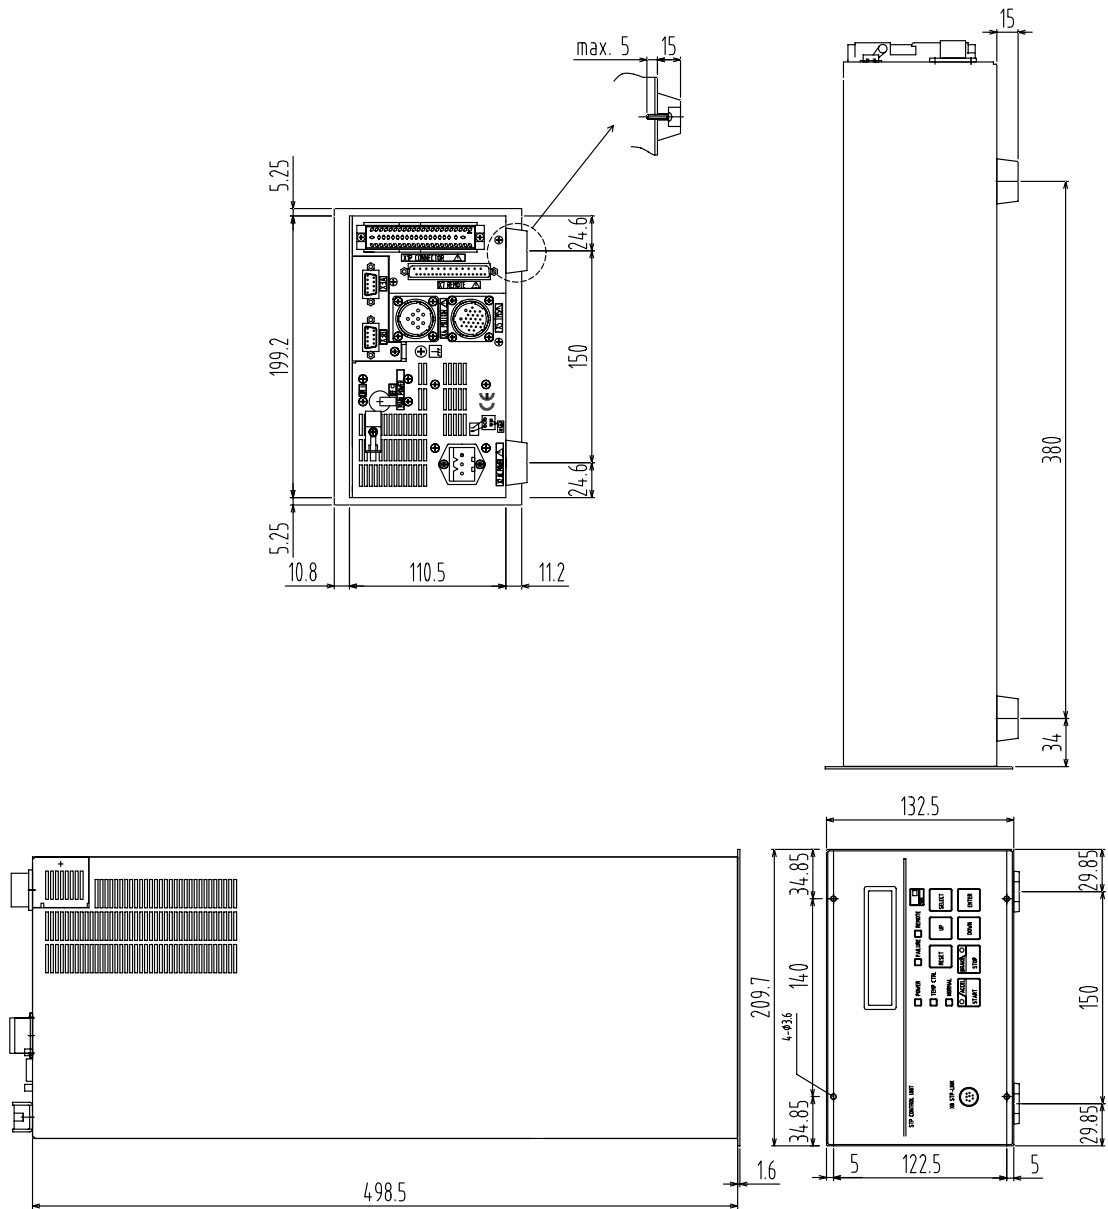

Figure 9 - SCU-1600 dimensions (mm)
*Note:* For the dimensions of the front panel and positions of the screw holes for the rubber feet, refer to Figure 9 and Figure 13.